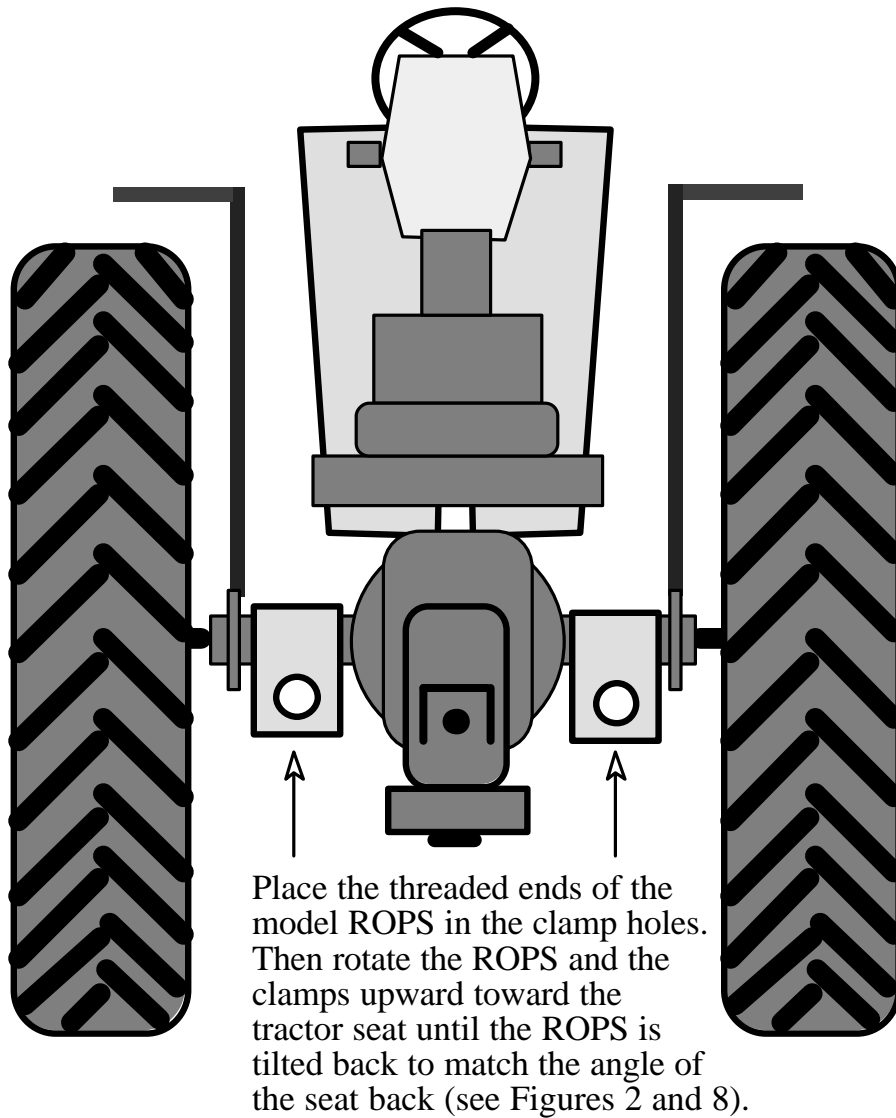
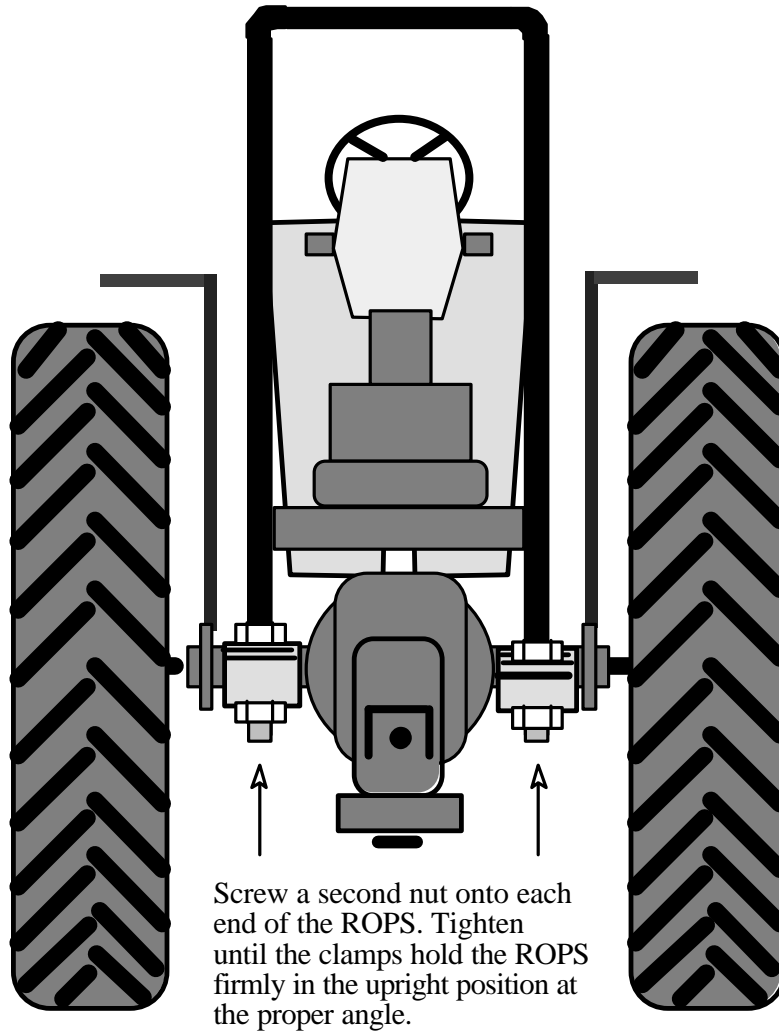

Figure 7: Placing the ROPS on the model tractor
Figure 8: Attaching the ROPS to the model tractor
6. Place the ends of the model ROPS through the holes in the clamps (see Figure 7). Add a second 1/4-inch nut on each side of the model ROPS (see Figure 8.) Slightly tighten the nuts and adjust the ROPS to the proper angle by tilting it back or forward as needed (see Figure 9). Then tighten the second set of nuts to hold the clamps in place. A small socket wrench attached to a screwdriver works well.